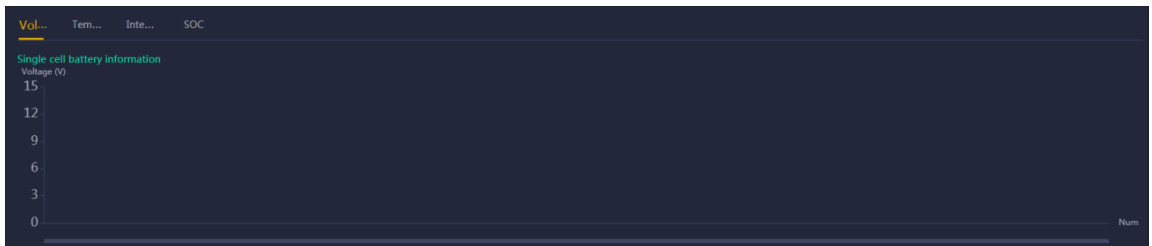

Figure3-24 Battery info
- Battery info: the histogram shows the voltage, temperature, internal resistance and SOC of each battery in real time, once the data abnormal, it will show red to alarm, as shown in Figure3-24.